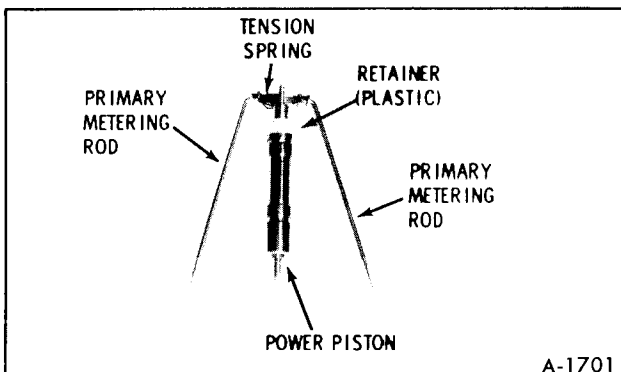

Figure 16-Power Piston and Metering Rod
6. Remove metering rods from power piston by disconnecting tension spring from top of each rod then rotating rod to remove from hanger as shown in Figure 16.
7. Install power piston spring into power piston well. If primary main metering rods were removed from hanger, re-install making sure that tension spring is connected to top of each rod (figure 16). Install power piston assembly in well with metering rods properly positioned in metering jets. Press down firmly on plastic power piston retainer to make sure the retainer is seated in recess in bowl and the top is flush with the top of the bowl casting.